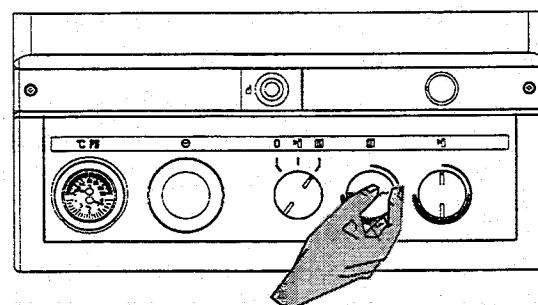

Fig. 6
2.3. Adjust the Central heating temperature control knob (4) to suit the weather, turning clockwise to increase setting anticlockwise to decrease setting. (Fig.6)